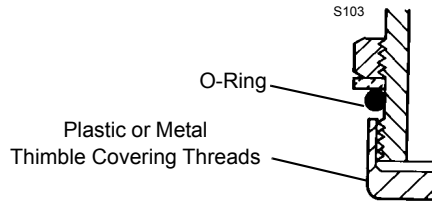

FIGURE 2-7
- Be careful not to cut O-rings when assembling them to fittings. Use thimble as shown in Figure 2-7 when assembling O-ring over threads.